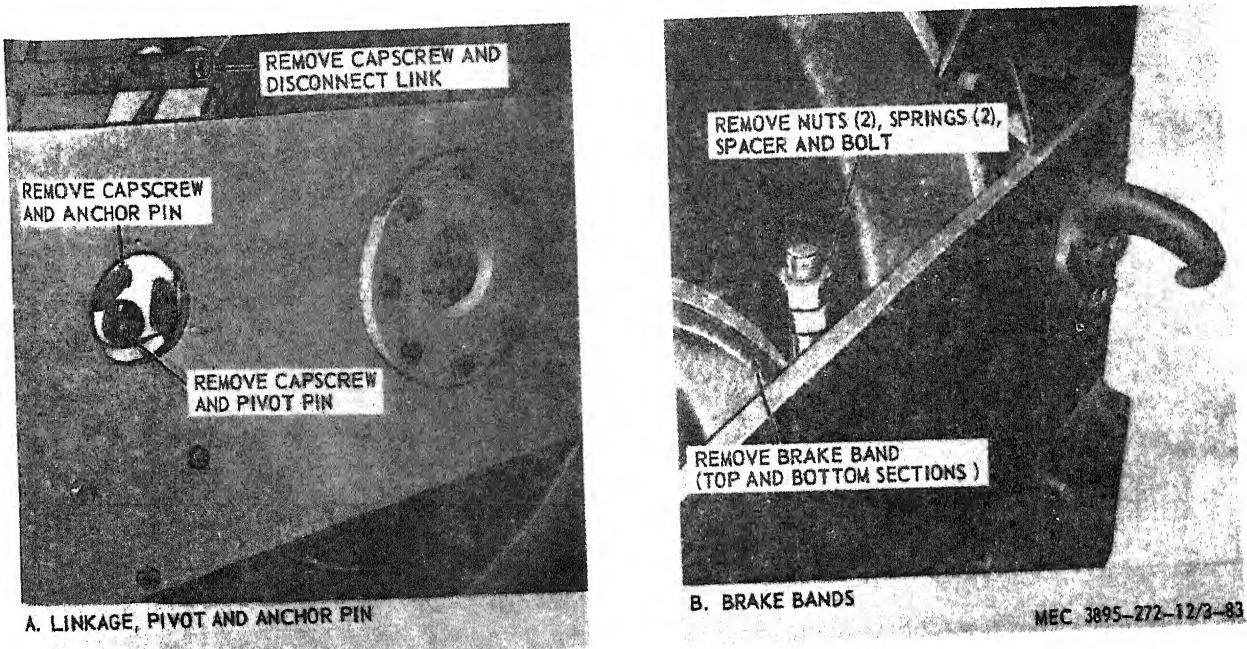

Figure 3-83. Parking brake, removal and installation.
a. *Removal.* Remove the parking brake from the drive roll as instructed on figure 3-83.
- (1) Clean all parts with an approved cleaning solvent.
- (2) Inspect the lining for wear and damage. Replace worn or damaged lining.
- (1) Install the parking brake in reverse of the instructions on figure 3-83.
- (2) Adjust parking brake (para 3-16).